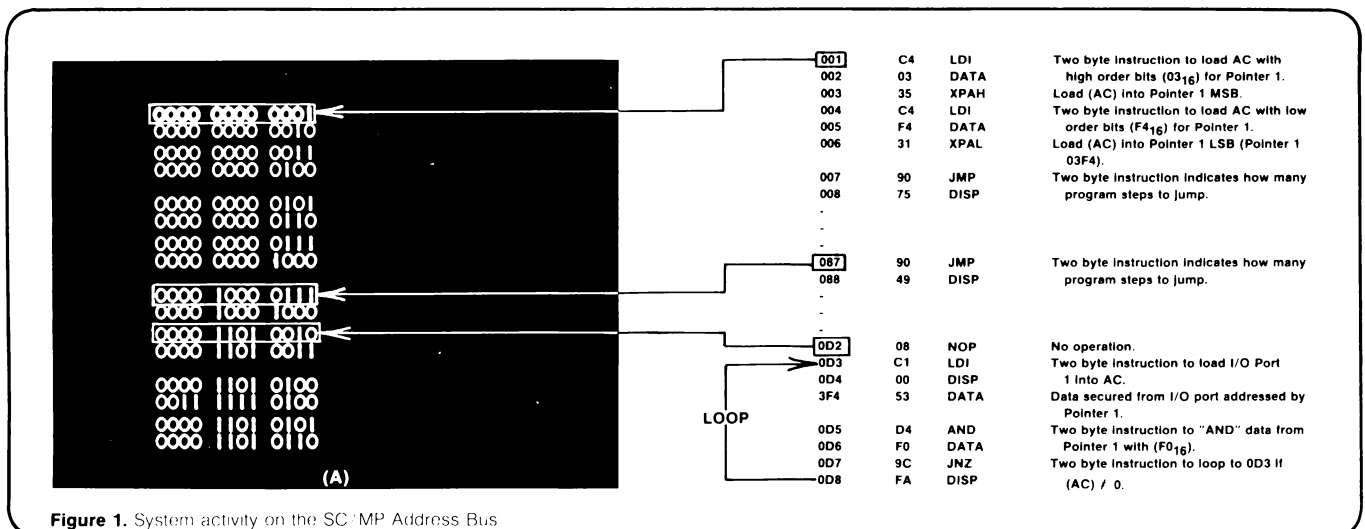

Figure 1. System activity on the SC/MP Address Bus
Figure 1 shows the display of information on the address bus (A) and the program from which it was derived (B). This figure will help you understand the Logic State Analyzer display. Your own program will do equally well. Proper system program operation is verified by a comparison of the table display with the program listing.